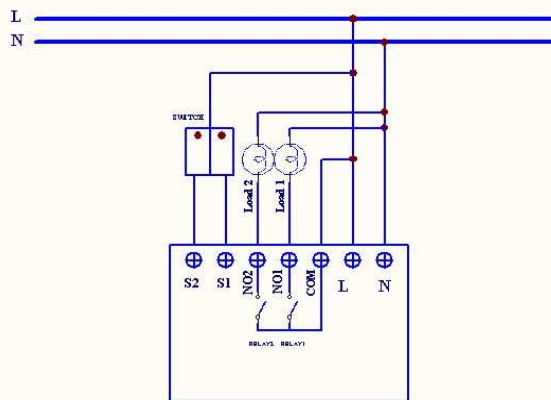

Fig 1. Assembling
2. Connect the wall switch to the PAN06 as Fig1 .